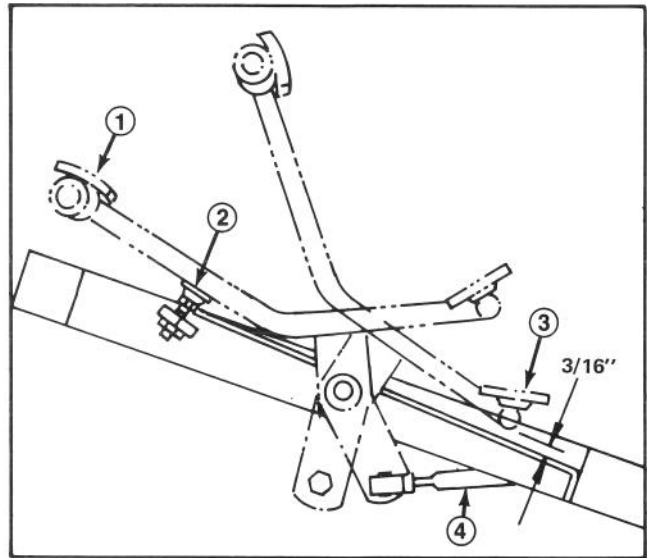

Figure 50
2. Pedal should contact pedal stop. If pedal contacts stop before spool is completely out, or if pedal does not make contact with stop, an adjustment to the stop is necessary (Fig. 50).
2. Check distance between bottom of pedal and footrest (Fig. 50). Distance should be approximately 3/16". If distance is greater or less than 3/16" dimension, an adjustment to the traction control rod is required.